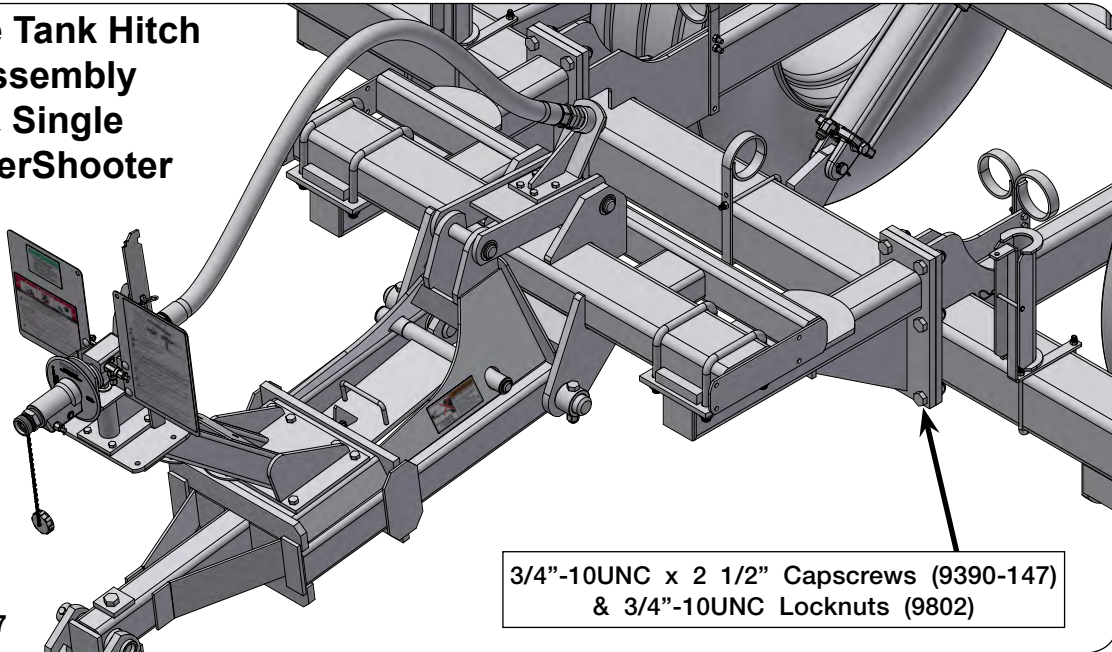
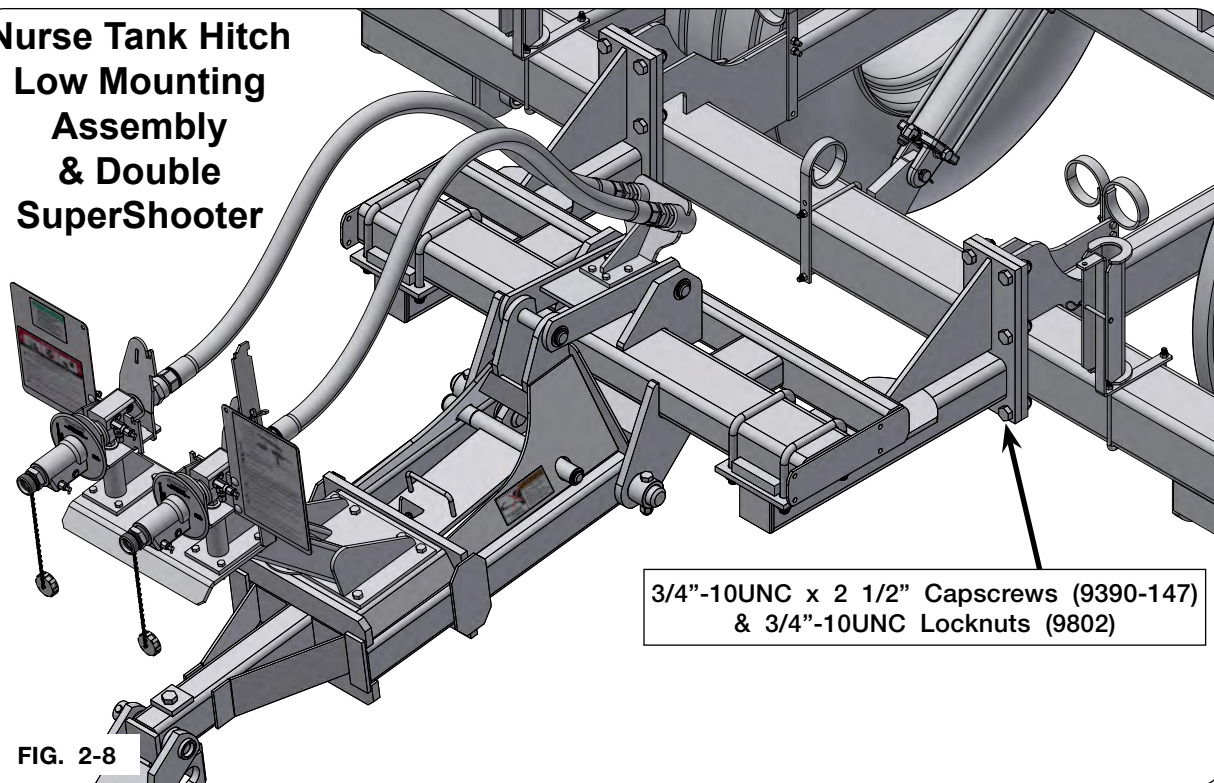

FIG. 2-7
FIG. 2-8
1. Using a safe lifting device rated at a minimum of 1000 lbs., attach the nurse tank hitch assembly to the main frame with twelve 3/4"-10UNC x 2 1/2" capscrews (9390-147) and 3/4"-10UNC locknuts (9802) (FIG. 2-7 or FIG. 2-8). Tighten hardware according to Torque Chart in MAINTENANCE section.